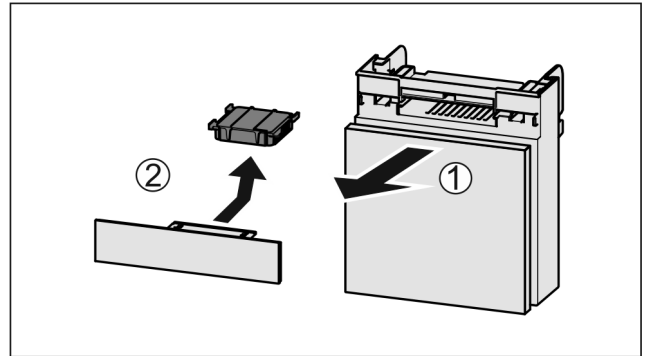

Fig. 82
- Pull out the compartment Fig. 82 (1).
- Remove the carbon filter Fig. 82 (2).